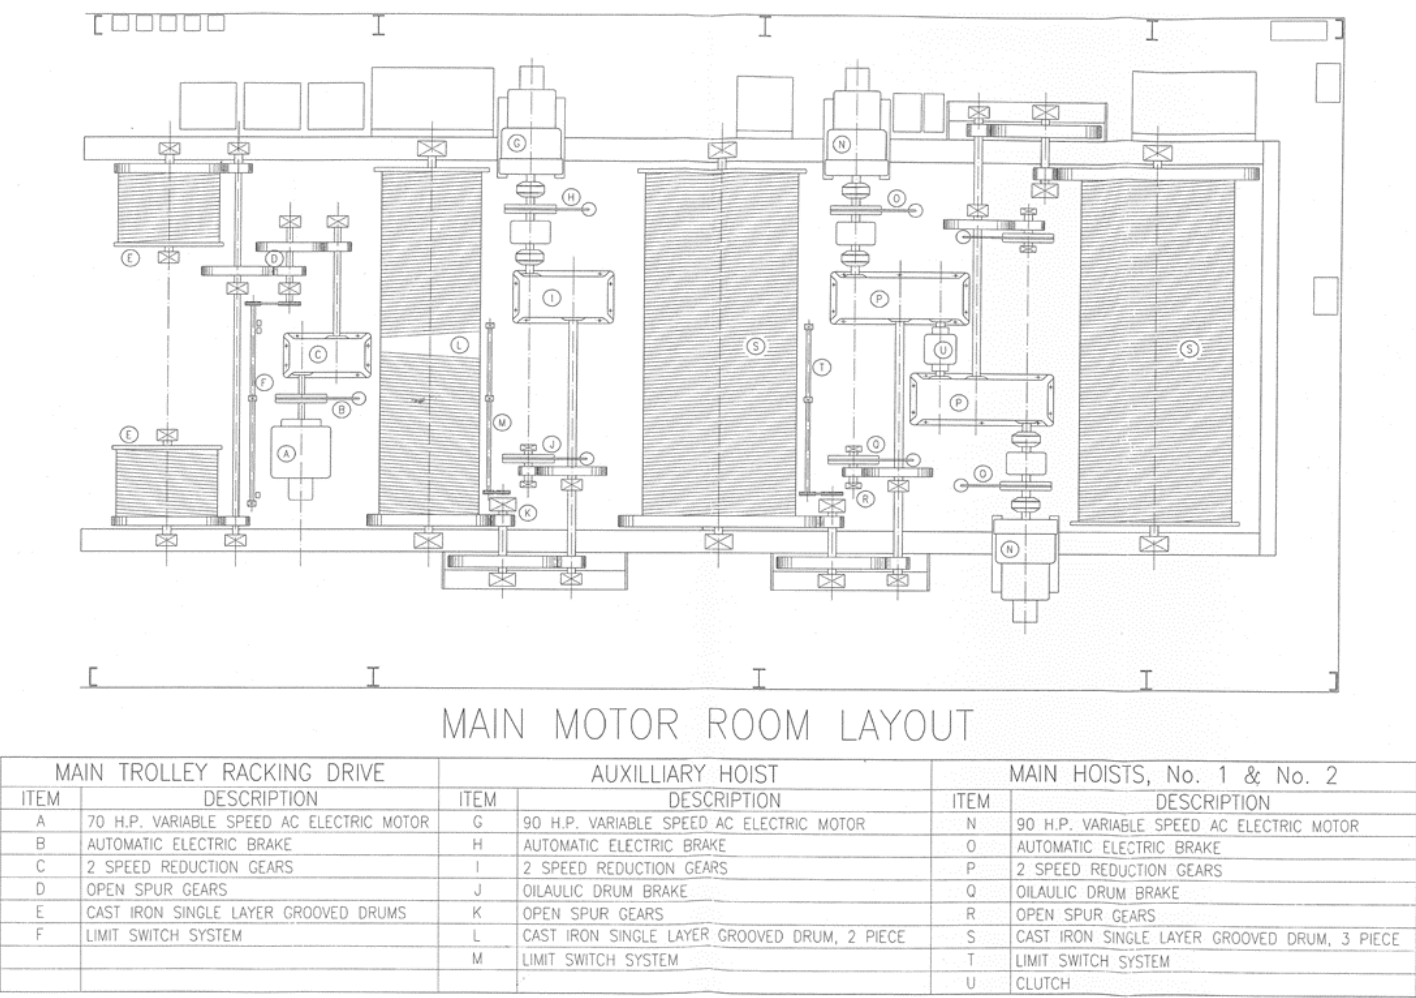

Figure 6: The Main Motor Room Layout of the Hammerhead Crane (Source: Robert Bird & Partners, 2003, Condition Study of the Hammerhead Crane)
- The main motor room was located at the end of the short arm of the jib. This motor room contained the drives and rope drums for the two main and auxiliary hoists. There were additional motor rooms for the slew drives and 10t jigger hoist. The layout of the main motor room is shown in Figure 6.